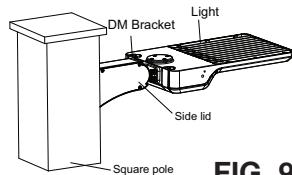

FIG. 9
2. Put the connected wires into the junction box and seal it with the side lid (see **Fig. 9**).